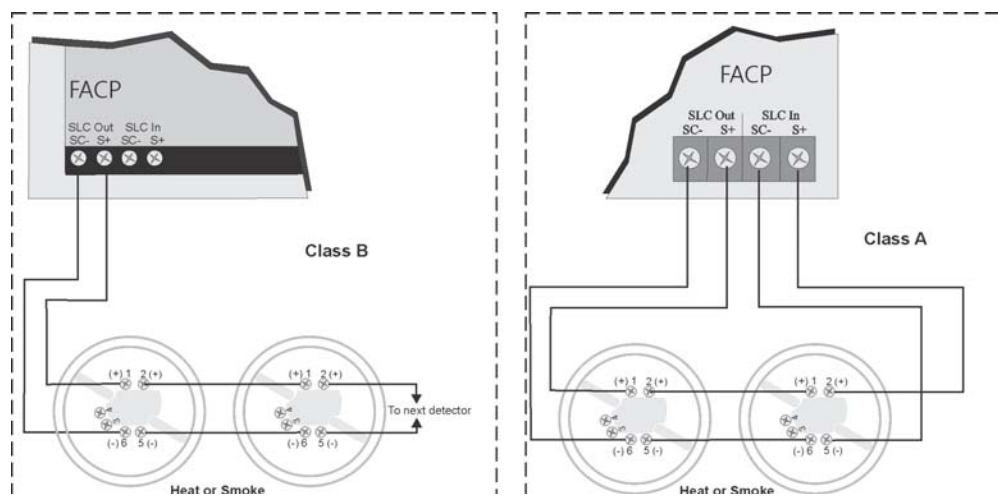

Figure 7-6 Heat or Smoke Detector Connection to the FACP (Class B)
1. Wire device bases as shown in Figure 7-6.